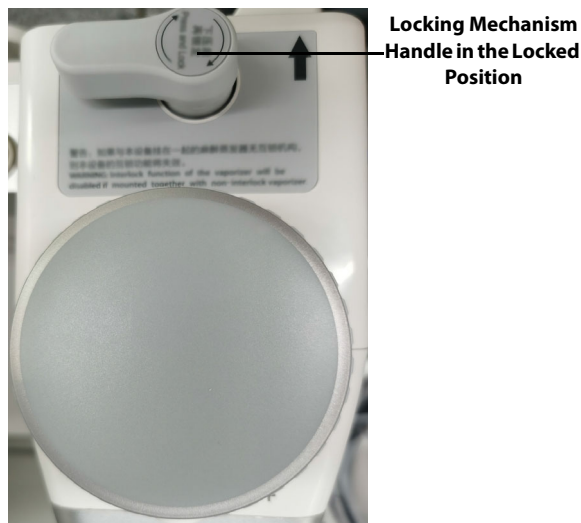

FIGURE 2-3 Vaporizer, Locked
3. Rotate the locking mechanism handle clockwise into the locked position (see FIGURE 2-3).